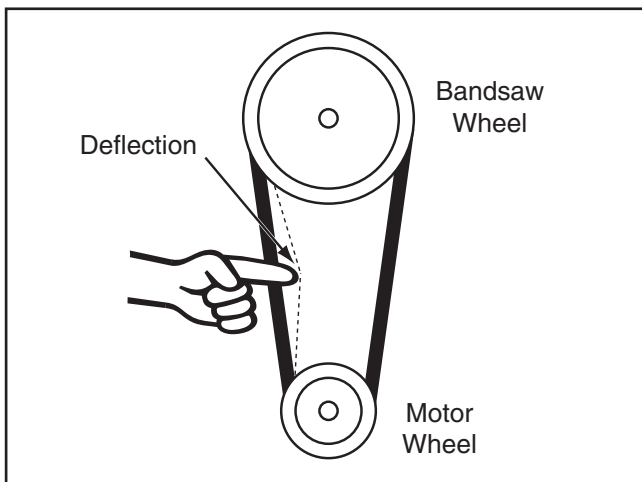

Figure 42. Belt deflection.
3. Check the belt tension. When tensioned correctly, the middle of the belt will deflect approximately $\frac{1}{4}$ " when pushed with moderate pressure (see **Figure 42**).